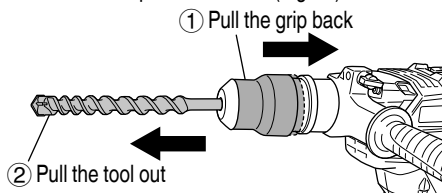

Fig. 11
- (3) Pull the tool to make sure it is locked completely.
- (4) To remove the tool, fully pull the grip in the direction of the arrow and pull out the tool (Fig. 11).